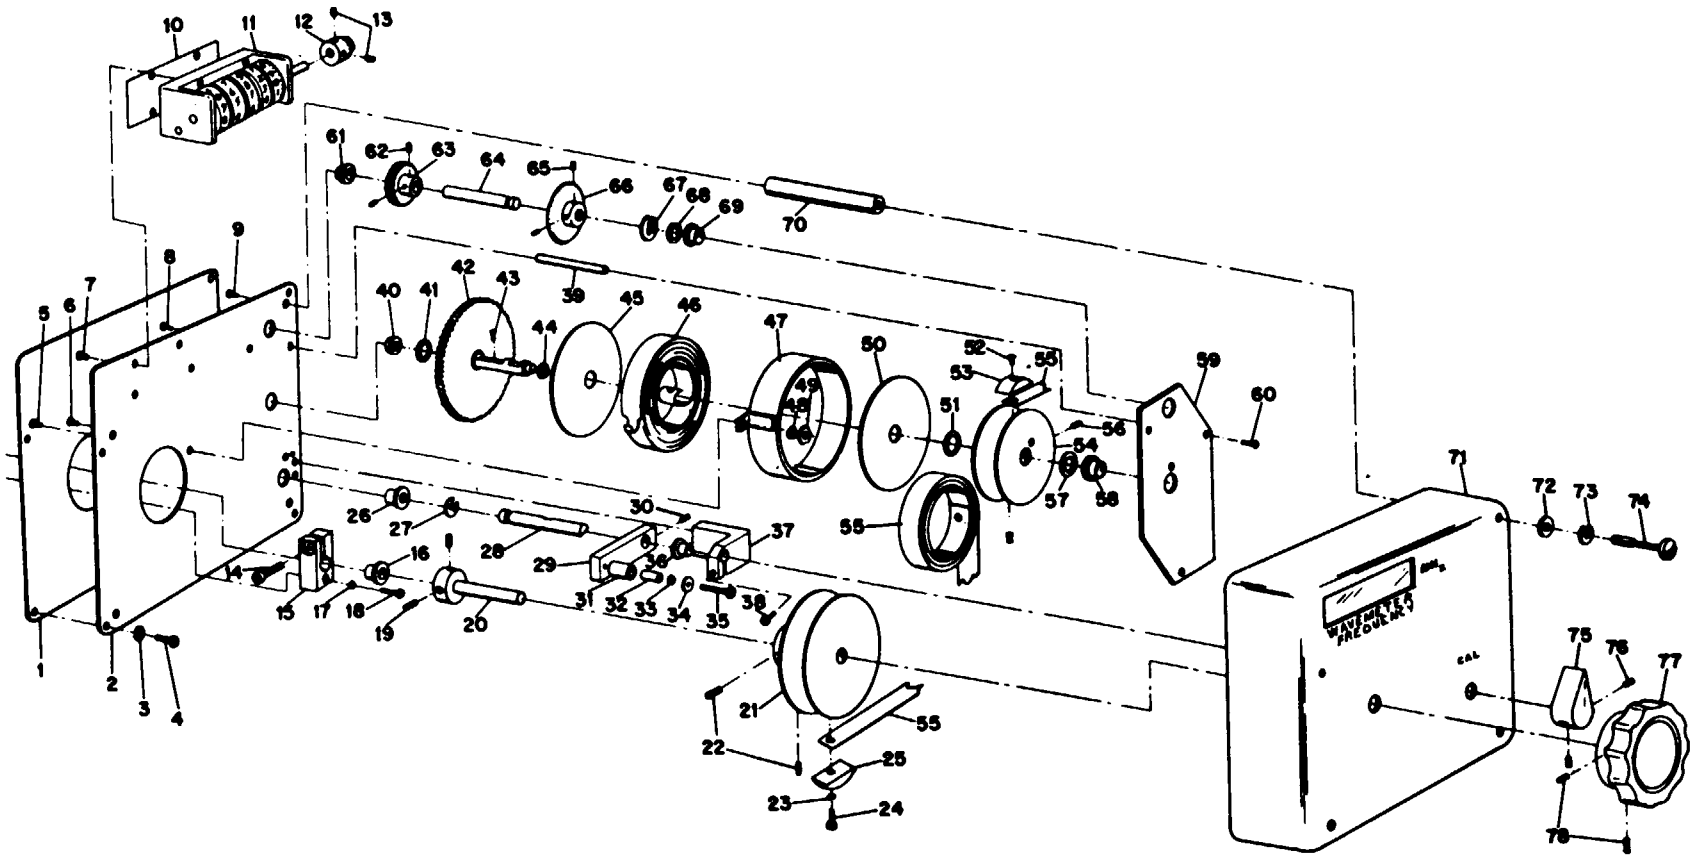

Figure 5-21A. Direct-Reading Wavemeter Indicator Assembly (AN/UPM-98B, AN/UPM-98C Only)
- Loosen setscrews (items 78 and 76) in both WAVEMETER FREQUENCY and CAL knobs (items 77 and 75) and remove knobs. Refer to figure 5-21A.
- Step 2. Loosen four captive screws (item 74) and remove cover (item 71).
- Step 3. Reinstall WAVEMETER FREQUENCY knob (item 77) and rotate counterclockwise until mechanical stop is reached, with about one turn of tape on drum (item 21). Insert small pin (Allen wrench may be used) into hole on plate (item 59) for locking takeup drum (item 54). Rotate knob back and forth until pin can be pushed into bole tn drum.
- Step 4. Rotate knob clockwise so that block (item 25) can be taken off by removing screw and lockwasher (items 24 and 23). Tape will now fall free. Loosen two setscrews